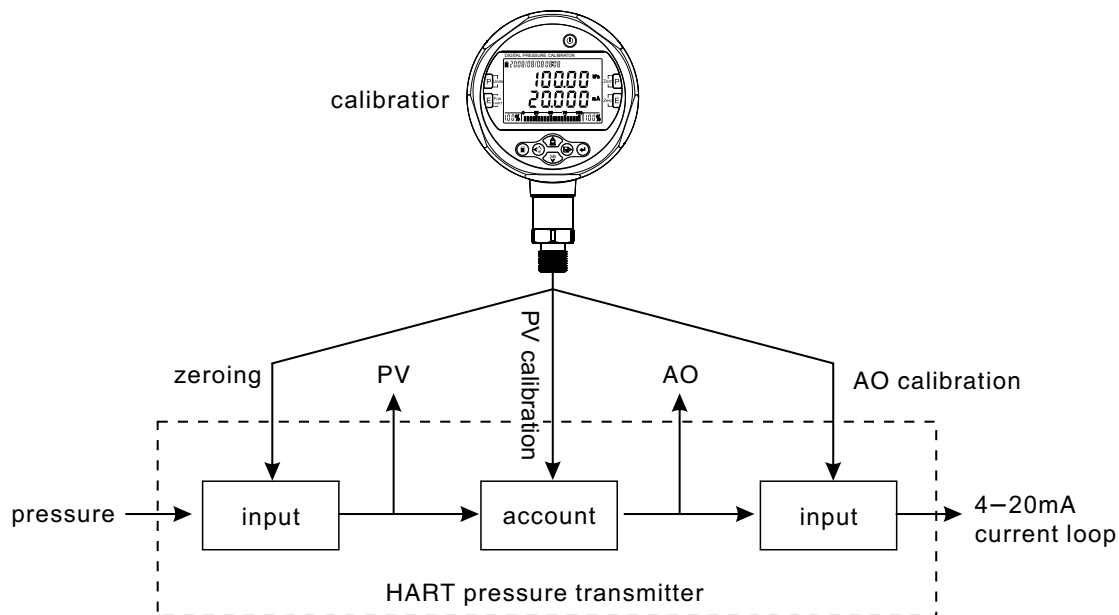

Figure 4–5: HART transmitter's working sketup map
(1) Please refer the figure 4–5 for HART transmitter's working sketup map.
(3) HART function's serial number is displaying in the status area, as  is function 1.
(4) As figure 4–5, HART pressure transmitter includes: PV calibration and AO calibration.